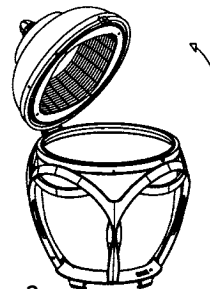

Figure 2
- a. Disengage the clip by pulling it away from globe ring and rotate the top upward (see Figure 2). To close, rotate top downward and engage clip.